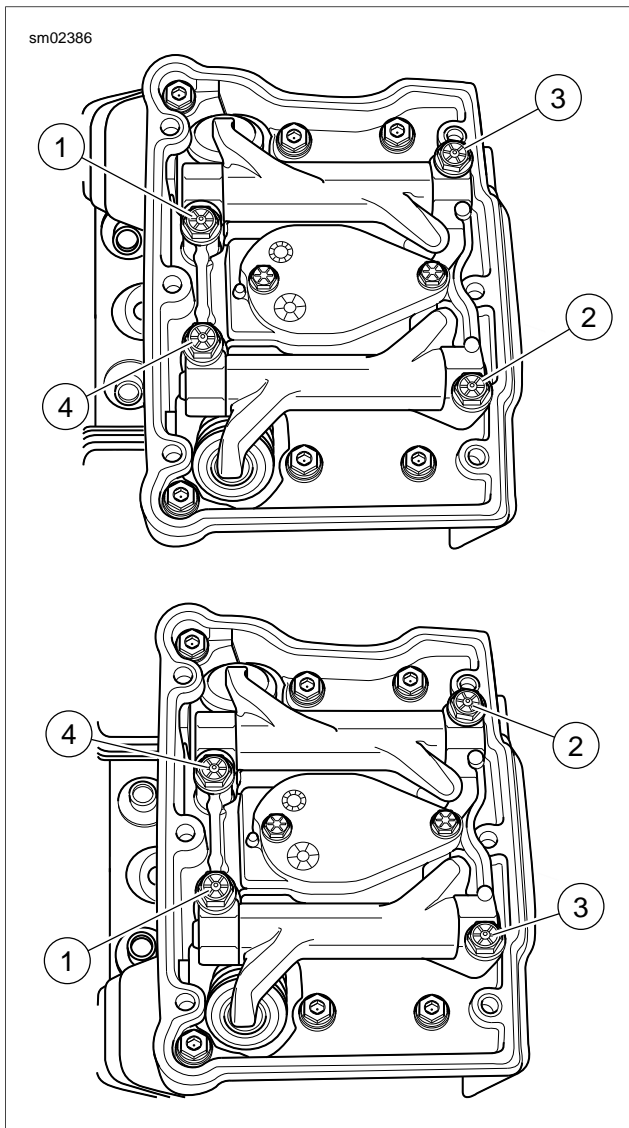

Figure 3-47. Rocker Arm Torque Sequence
2. See Figure 3-47. Place the rocker arm support plate assembly into the rocker housing. Loosely install the four rocker arm support plate bolts with flat washers.